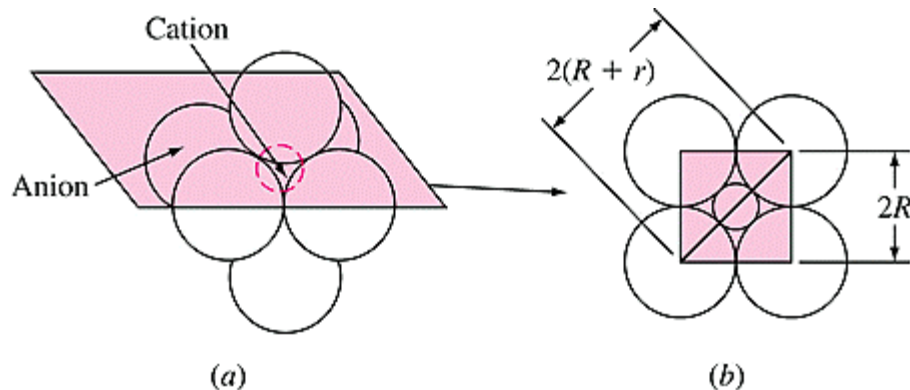

Figure 10.60 (a) Octahedral coordination of six anions (radii = R) around a central cation of radius r . (b) Horizontal section through center of (a).
10.7 Using Fig. 10.60, calculate the critical radius ratio for octahedral coordination.
From the triangle shown above in Fig. 10.60 (b),